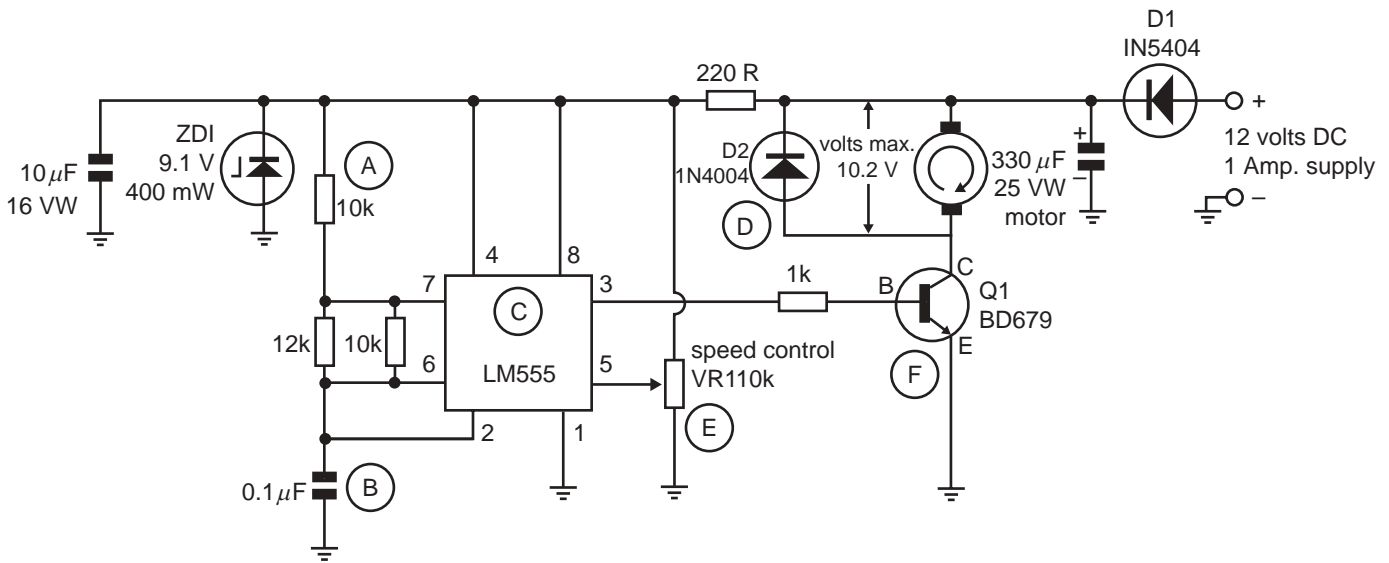

Figure 8
The electric motor also has an electronic motor speed control circuit. This is shown in Figure 8. The motor speed control circuit can control the speed at which the merry-go-round turns.
- c. The motor speed control circuit, Figure 8, has six electronic components labelled A – F. Write the correct name of the component next to the circled letter.